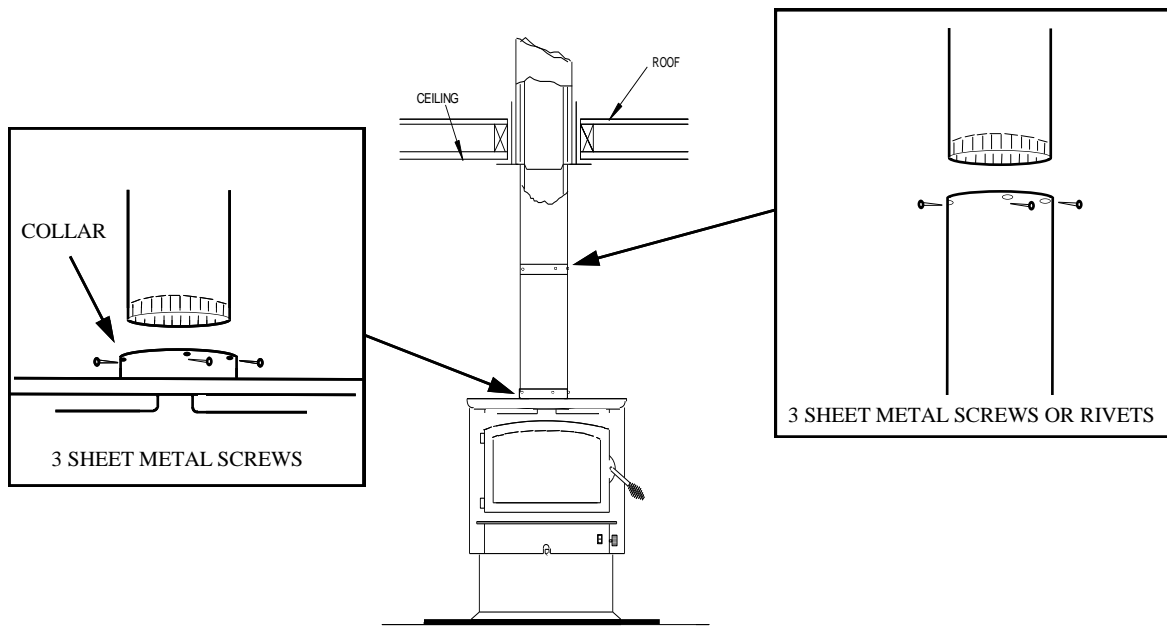

Figure 10
Now connect stove and ceiling support box using #24 ga. minimum blue or black steel connector pipe (**DO NOT USE GALVANIZED PIPE**). Connect each section so crimped end faces downward, and secure each section to each other using at least three (3) sheet metal screws or rivets. Also use three (3) sheet metal screws to fasten pipe to collar on heater. (See Figure 10. Page 15).
5. Connect chimney connector to tee-box using #24 ga. minimum blue or black steel connector pipe. DO NOT use galvanized pipe. Connect each section so the crimped end faces downward, and secure each section to each other using three (3) sheet metal screws or rivets. (See Figure 10. Page 15).
- (c) Secure each section to each other using at least three (3) sheet metal screws or rivets (See Figure 10. Page 15).
- (d) Use three (3) sheet metal screws to fasten pipe to connector collar on heater. (See Figure 10. Page 15).